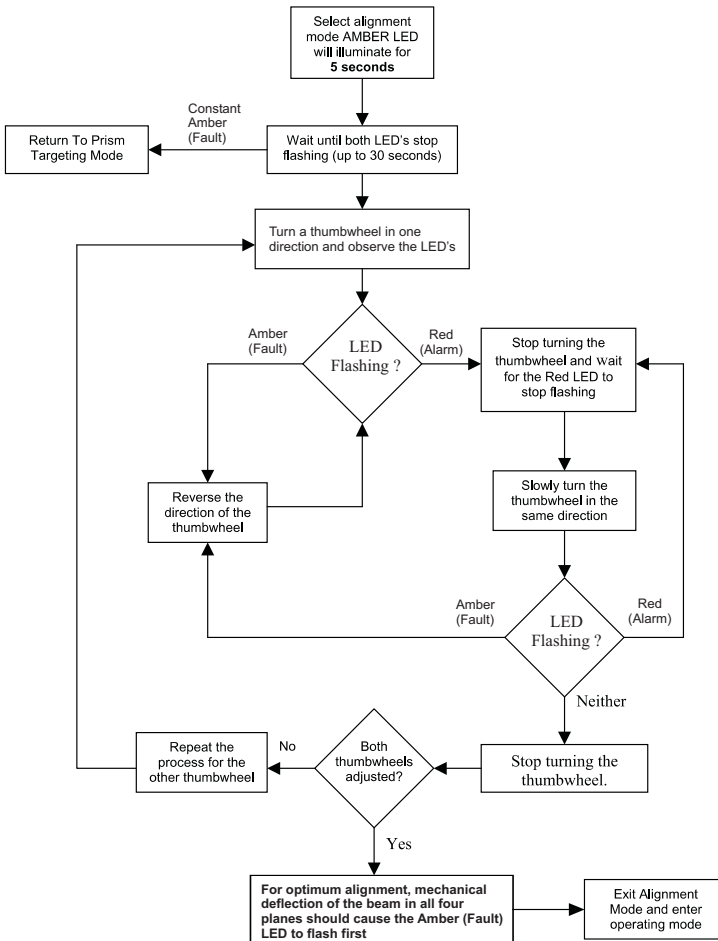

FIG. 8 Alignment Process Flow Diagram.
- Continue to flow diagram for procedure (See fig.8).**